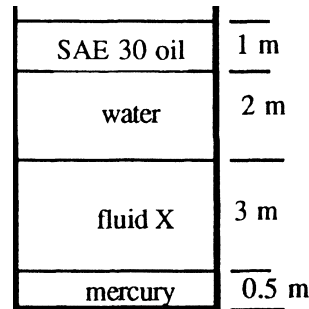

Fig. P2.18
**2.18** All fluids in Fig. P2.18 are at 20°C. If atmospheric pressure = 101.33 kPa and the bottom pressure is 242 kPa absolute, what is the specific gravity of fluid X?